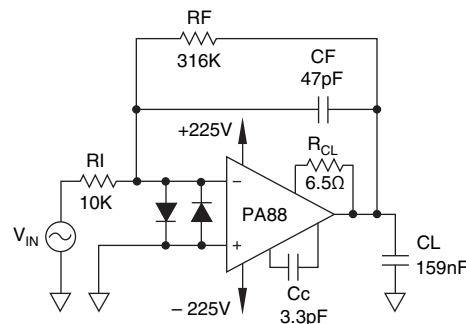
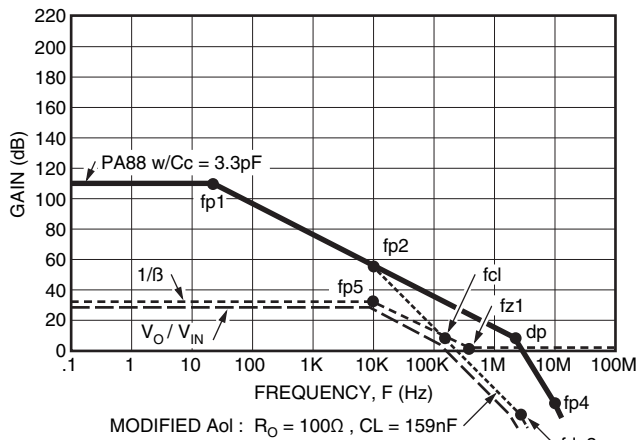

FIGURE 26. FEEDBACK ZERO COMPENSATION FOR CL
FIGURE 27. FEEDBACK ZERO COMPENSATION FOR CL MAGNITUDE PLOT FOR STABILITY
Figure 26 illustrates a circuit utilizing Feedback Zero Compensation for stability when driving a capacitive load. Figure 27 is our magnitude plot to work with for stability. The following procedure will ensure a logical approach to optimize stability:
The higher frequency poles of the unmodified PA88 Aol must be added into the modified Aol as shown in Figure 26.
STEP 3: Plot DC $1/\beta$. Add pole in $1/\beta$ plot to compensate for fp_2 . Ensure fp_5 is one-half to one decade away from f_{cl} such that if the modified Aol plot in the real world moves to the left towards lower frequency we will not be back at a 40 dB per decade rate of closure. Note in Figure 27 that the $1/\beta$ plot has fp_5 and fz_1 . The feedback network continues to feed back output voltage beyond f_{cl} until we reach 0 dB. Then the $1/\beta$ plot flattens out at 0 dB. It is important to include fz_1 since it will be a pole in our open loop phase check and will affect phase at frequencies lower than f_{cl} . At f_{cl} loop gain is zero and beyond f_{cl} we are not concerned with phase shift to guarantee stability. Note that the V_O/V_{IN} plot follows the $1/\beta$ plot until at which point there is no loop gain and V_O/V_{IN} will follow the Aol curve on down in gain.
STEP 5: Once you have chosen CF to get the fp_5 you want you automatically set fz_1 . fz_1 can be gotten graphically from the $1/\beta$ plot. For those of you who want exact break-points, here are the formulae for the $1/\beta$ plot in Figure 27.